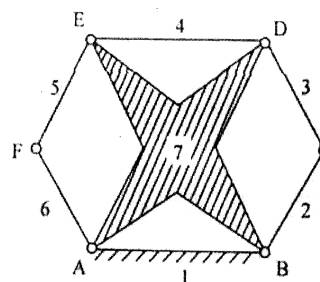

Figure 1b.
- b. Determine the degree of freedom of the linkages shown in the Fig. 1b. 4